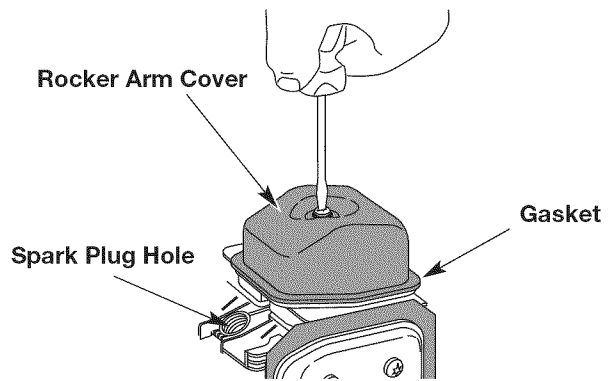

Fig. 25
6. Clean dirt from around the rocker arm cover. Remove the screw holding the rocker arm cover with a large flat blade screwdriver or Torx T-25 bit (Fig. 25). Remove the rocker arm cover and gasket.
- The piston is at the top of its travel while looking in the spark plug hole (Fig. 25).